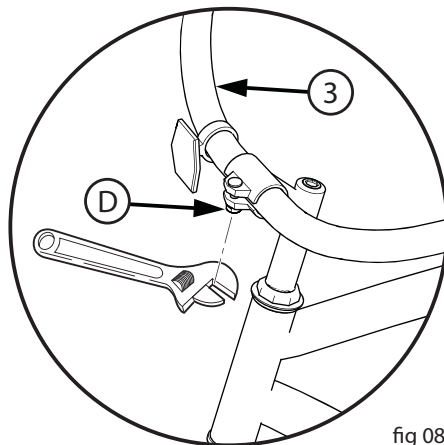

fig 08
3. Tighten the Stem Bolt (C) just enough to hold it in position.
4. If necessary, loosen the Handlebar Clamp Nut/Screw (D) and rotate Handlebar (3) into a comfortable riding position (fig 08/08a).
5. Tighten Handlebar Clamp Nut/Screws (D) just enough to hold it in position (fig 08/08a).
### One Bolt Clamp (fig 08):